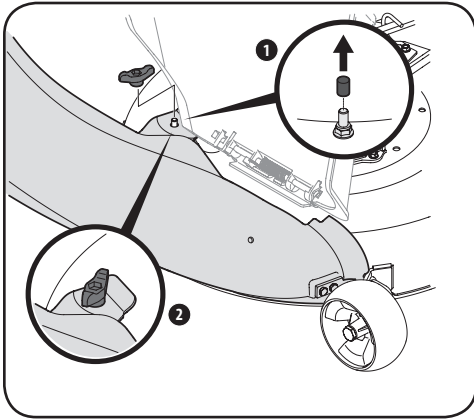

Figure 4-22
- Secure the chute elbow to the deck using a wing knob (720-04122) from hardware pack 689-01419. See Figure 4-22.
Note: If present, remove the protective cap off of the mounting stud on the mowing deck as shown in the upper inset of Figure 4-22.